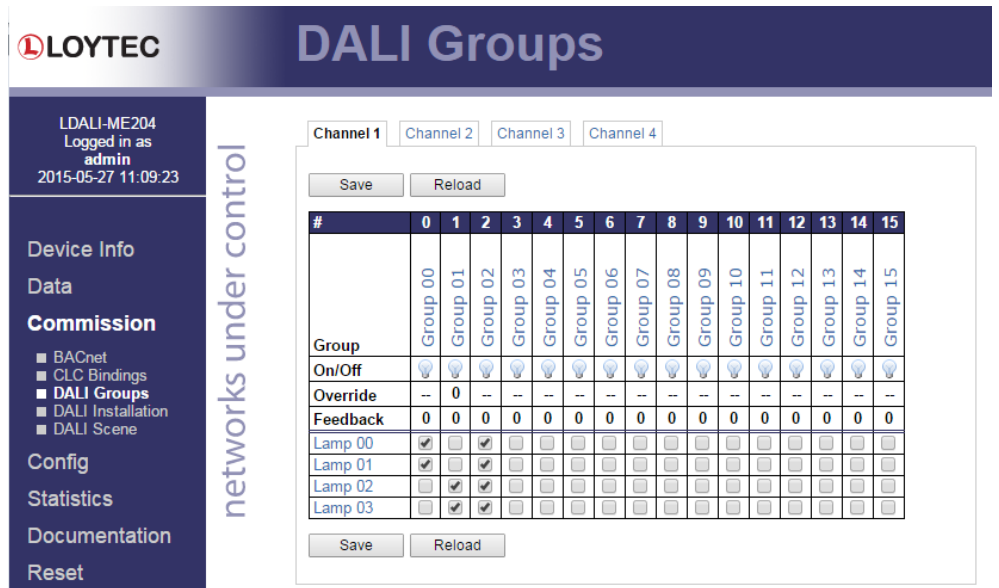

Figure 31: DALI Installation Web Interface: Group Configuration.
- Add the two lamps near the window to group 0, the two lamps near the corridor to group 1 and all lamps to group 2 by checking the corresponding check boxes. Press the **Save** button. The result will look like in Figure 31.